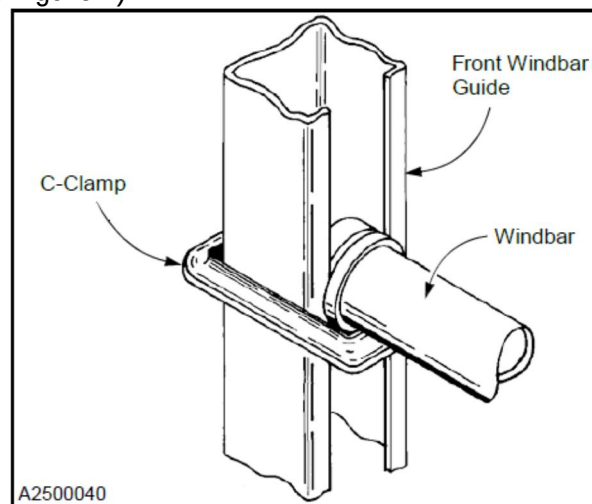

Figure 4
- 14.) Slide the windbar guide above the halfway point on each front windbar guide. Secure a C-Clamp at that point on each side. (See Figure 4)
- 15.) Bring the windbar down so it rests on top of the 2 C-clamps. (See Figure 4)
- 10.) Slide the windbar above the halfway point. Secure a C-clamp at the halfway point on each windbar guide. (See Figure 4).